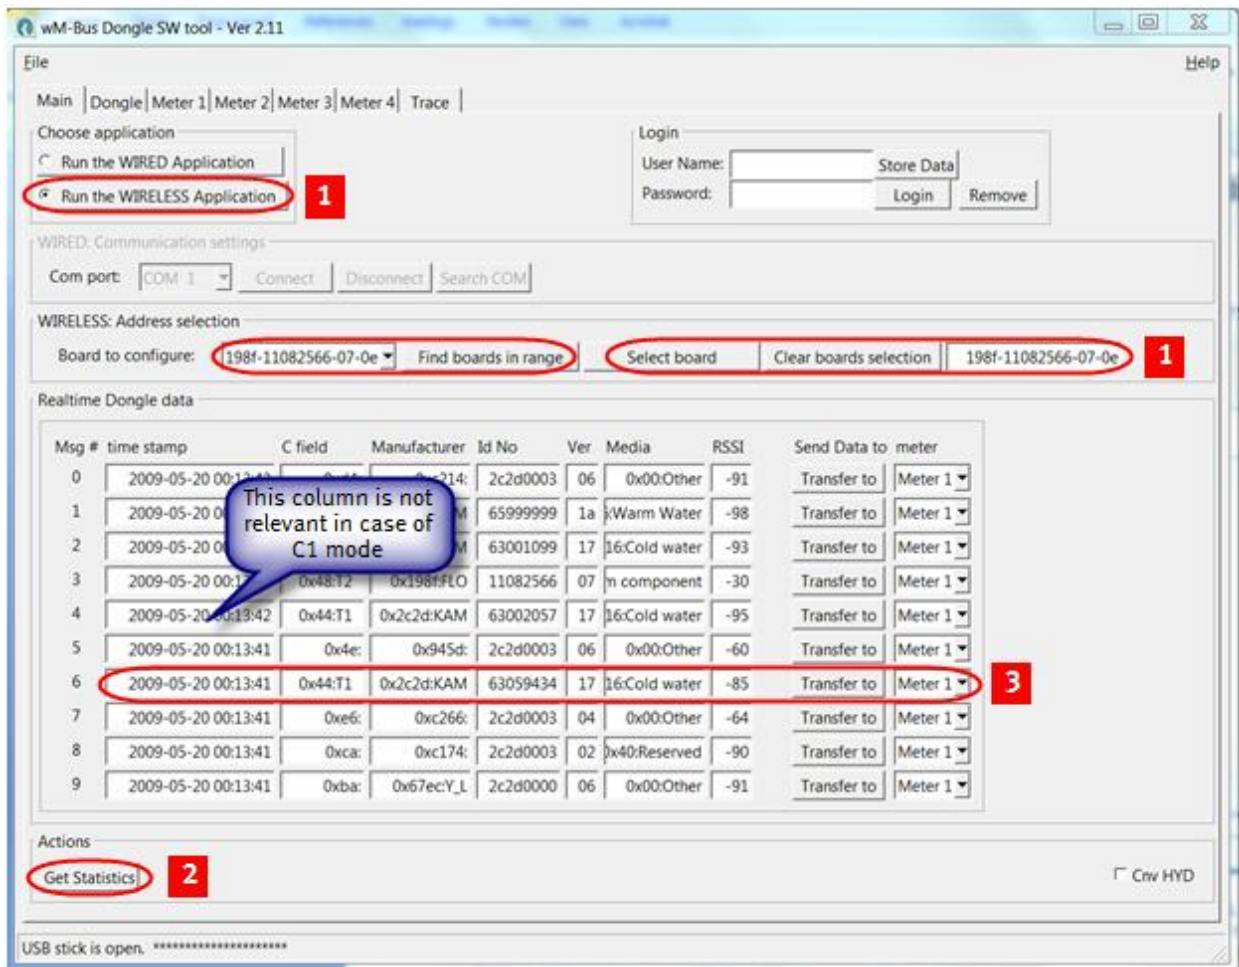

Figure 2
- 1 Connect the Dongle to a supply, either a wired bus or to 24 V DC. Run the wM-Bus Wireless application by selecting *Run the WIRELESS Application*. Then, select the Dongle by clicking the button [Find boards in range] and selecting it via the drop-down menu next to *Board to configure*. Clicking the button [Select board] now adds the Dongle to the program (see *Figure 2*)
- 2 Search for wM-Bus meters (see *Figure 2*)
- 3 Choose the wM-Bus meter (see *Figure 2*)
**Note:** In *Figures 2* and *3*, all fields marked with red must be filled in or selected.